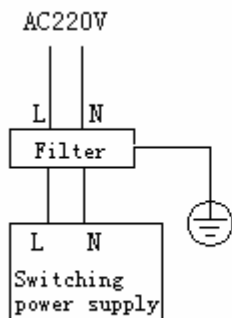

Fig. 1-4
(1) CNC must be kept away from the equipment with interference (e.g. inverter, AC contactor, electrostatic generator, high voltage generator, and sub-unit of power lines), and the switching power supply should be connected to a filter to improve the anti-interference of CNC (as in Fig.1-4);
(2) To supply power to the system through isolation transformer, the machine tool must be grounded, CNC and drive must be connected to separate earth wire.